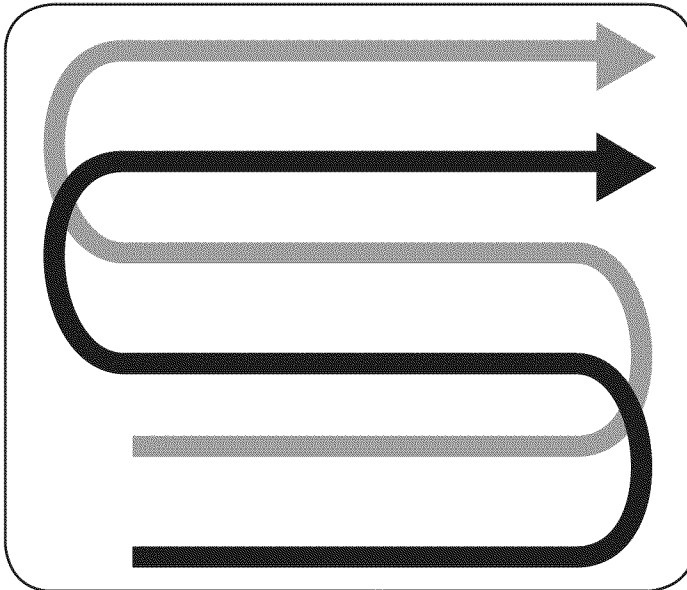

Figure 13
- When preparing a seedbed, go over the same path twice in the first row, then overlap one-half the tiller width on the rest of the passes. See Figure 13.